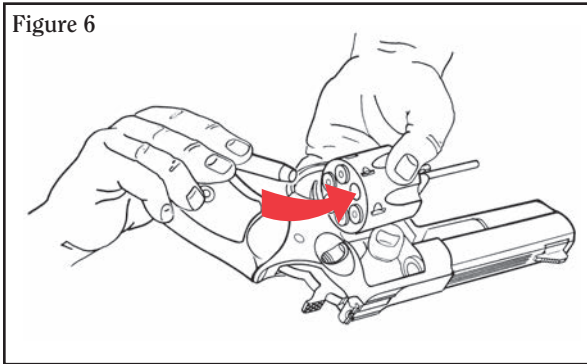

Figure 5
1. Press the crane latch and guide the cylinder out of the frame to the left to its loading position. (See Figure 5.)
Load the cartridges, along with the moon clip, into the cylinder. (See Figure 5.)